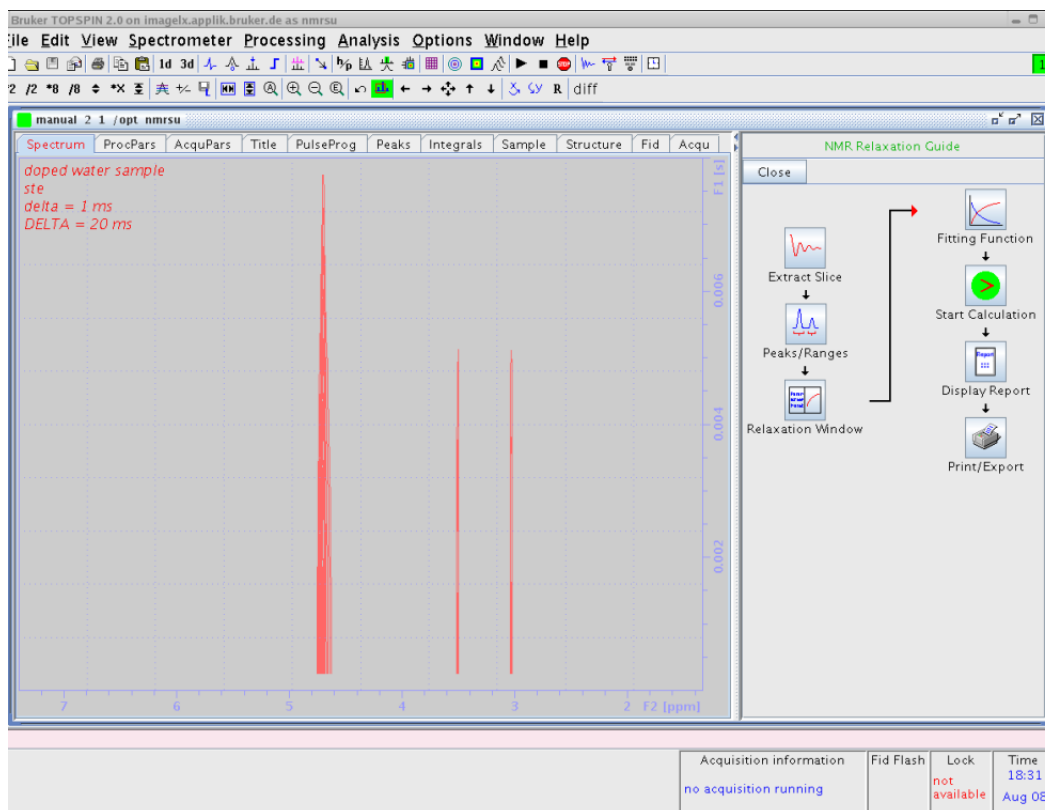

Figure 3.7 Pseudo 2D Spectrum with **NMR Relaxation Guide**
2. Select the **NMR Relaxation Guide** by clicking on **T1/T2 Relaxation** in the **Analysis** pull-down menu. The TopSpin data window should look like that in Figure 3.7.